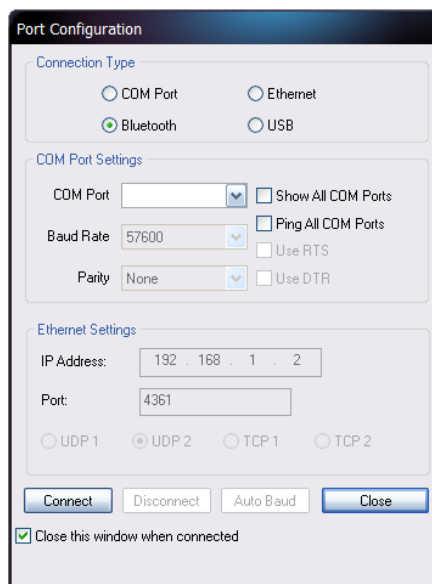

Figure 94: Port Configuration – Bluetooth
13. Click the *Connections* button on the Shortcut bar to open the *Port Configuration* dialog box (see Figure 94).
Refer to Figure 94 for the steps below: